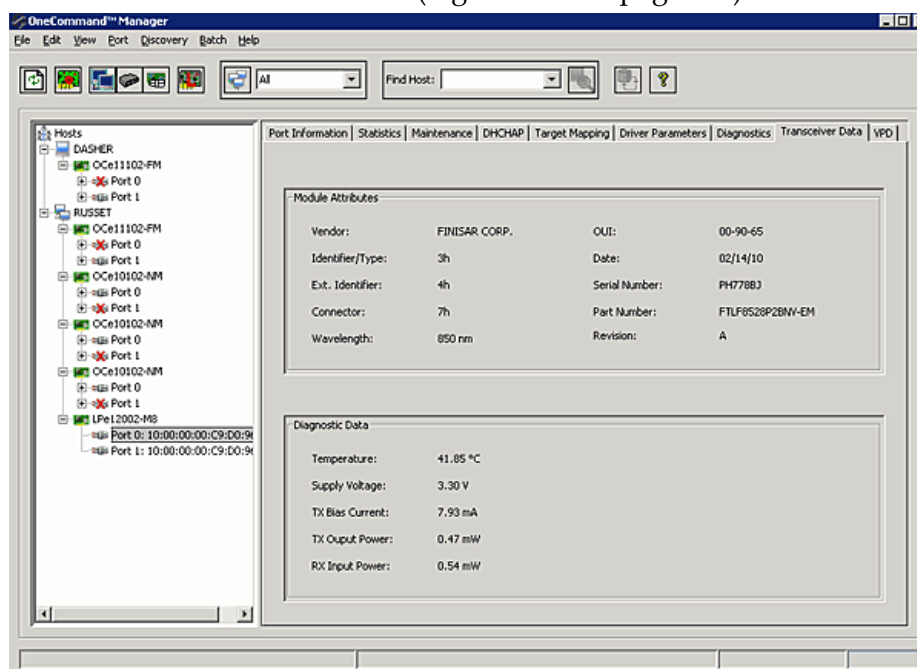

Figure 8-14 FC Transceiver Data Tab
When you select an FC port from the discovery-tree (Figure 4-3 on page 40), the Transceiver Data tab (Figure 8-14 on page 135) enables you to view transceiver information such as vendor name, serial number, part number and so on. If the adapter/transceiver does not support some or all of the transceiver data, the fields display N/A.
3. Select the **Transceiver Data** tab (Figure 8-14 on page 135).